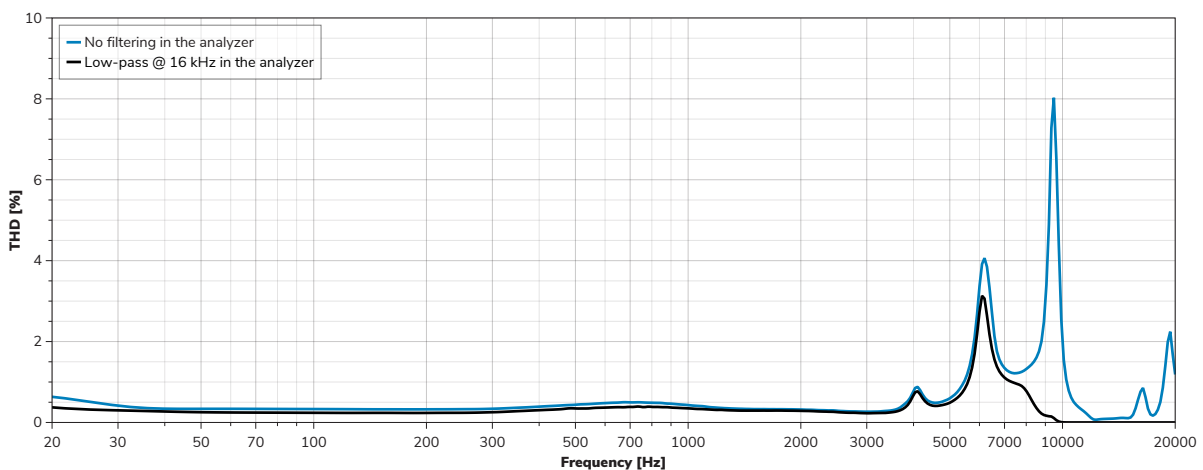

Figure 8: THD 94 dB SPL @ 1 kHz, corresponds to 1 V_{rms} (1.4 V_p)**
**Low pass filter @ 16 kHz (see figure 8) is added due to the typical audible frequency range of adults.